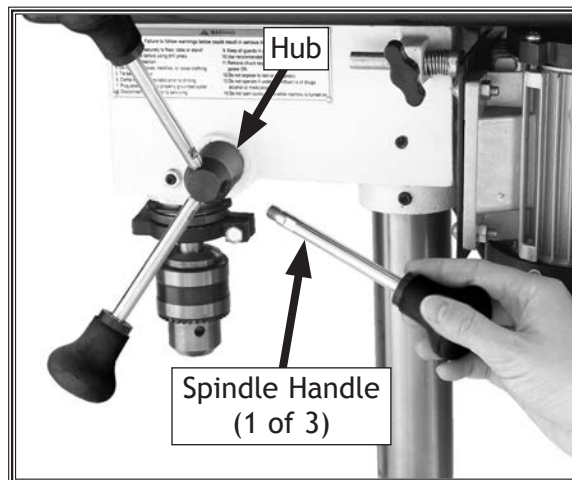

Figure 16. Example of installing spindle handles.
12. Thread (3) spindle handles into hub, as shown in Figure 16.